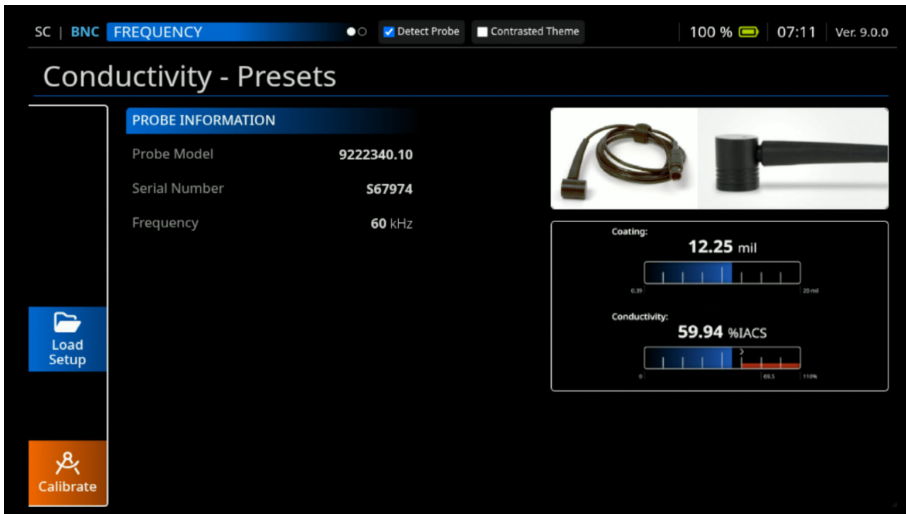

Figure 6-3 Conductivity Presets
2. Press **Calibrate** to move to calibration, or Load Setup to load a predefined setup file (See Figure 6-3 on page 208).